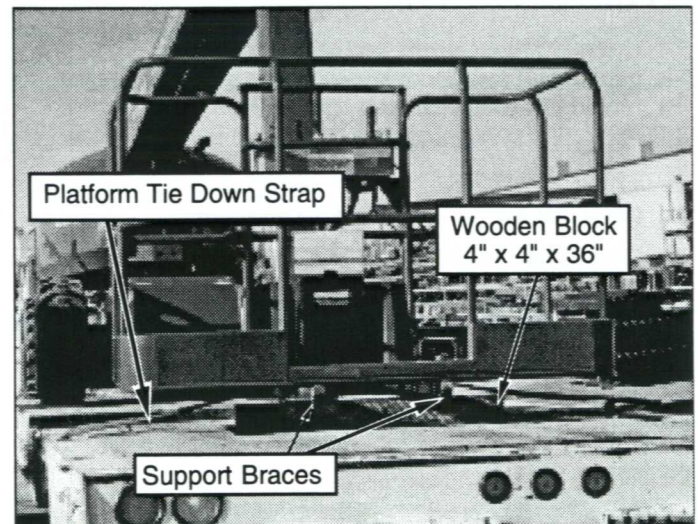

Figure 2-9: Securing the machine for transportation.
6. Place wooden block (10cm x 10cm x 91cm) (4" x 4" x 36") under platform support braces. (Figure 2-9)
7. Attach ratchet strap under platform floor grating, over support braces. (Figure 2-9) Do not over tighten.